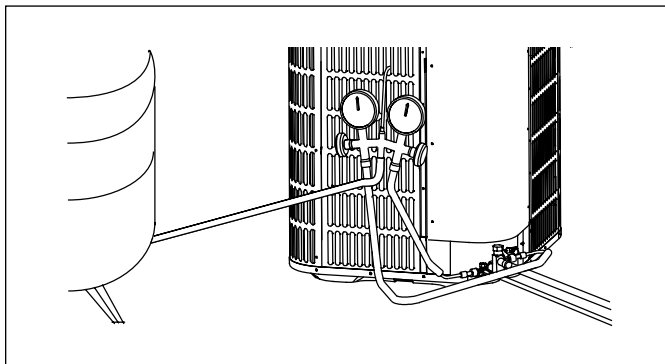

Figure 67
- Connect gauges to refrigerant bottle and unit as illustrated (Fig. 67).